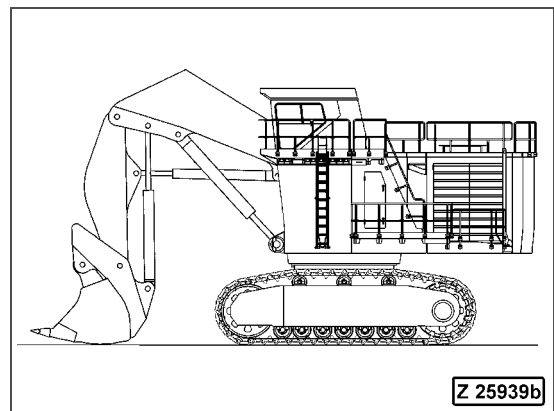

Fig. 5-111
2. Park the machine on the prepared flat area and position the bucket on the ground with the stick and the bucket cylinders in vertical position (Fig. 5-111).